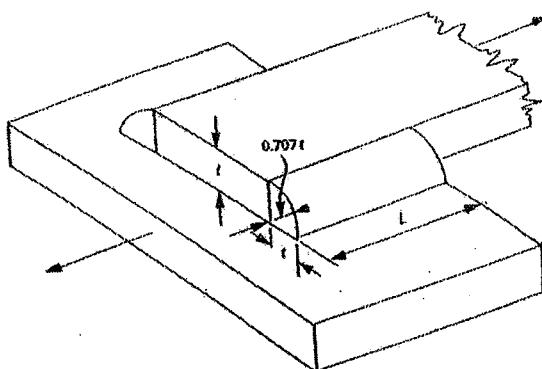

Figure 4
- [c] A flat steel was welded to a base steel by a lap joint as shown in Figure 4. Based on AWS code, determine the length of the welds if it should support a load of 170 kN and the thickness of the steel is 10 mm. Tensile strength of the welding electrode used was 300 MPa.